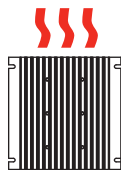

fig. 2 Maximum heat sink dissipation on natural convection
- For optimal thermal performance heat sink fins should be oriented vertically to promote natural convection airflow. (See **fig.2**)